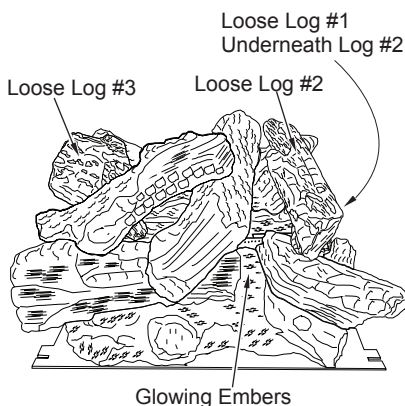

Figure 28 - Installing Loose Logs
2. **For 36" models only:** install 3 loose logs by placing log #1, log #2 and log #3 onto one piece log as shown in Figures 28, 28a and 28b.
3. Pull glowing ember material apart into pieces no larger than a dime. Place these pieces loosely and sparingly directly onto exposed burner ports (Figure 28). This will create the glowing ember appearance as flame touches ember material. Do not block air slots by using too much ember material in one area. Do not block pilot ports with embers. It is not necessary to use all of the glowing ember material provided.
5. **For 36" models only:** Remove 3 loose logs from log set (see Figure 28, 28a and 28b, page 22).